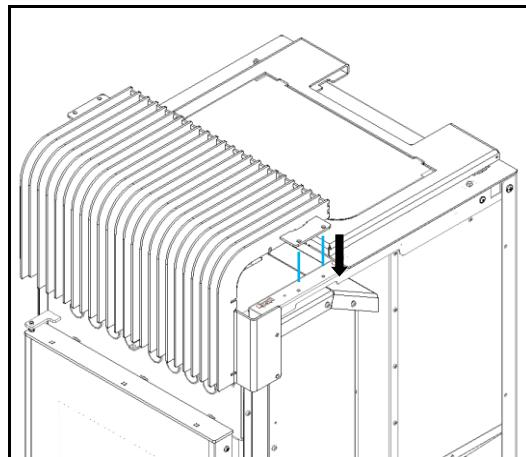

Figure 87 – Fitting the front grille
- e) Finally, screw **C** (DIN 7981 4,2x9,5), in hole 5, as shown in Figure 87.